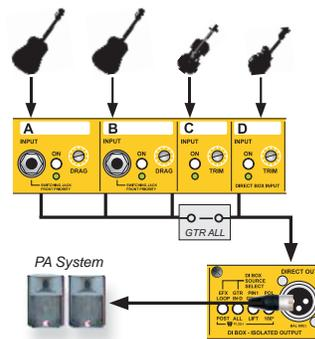

Fig.40 - Four acoustic instruments are assigned to the DIRECT OUT and sent to the PA.
**EXAMPLE: FOUR ACOUSTIC INSTRUMENTS (Fig.40)**
This example shows four acoustic instruments such as guitars, fiddle, and mandolin (Fig.40). Unlike example-1, this setup would assign all instruments to the DI by setting the GTR switch to the inward position ( ALL  ). This will allow the PA system to reinforce the acoustic instruments and the player can turn on stage amps at will via the front panel controls or JR5 remote footswitch. Effects connected to the local EFX LOOP could also be routed to the DI and turned on and off via the amplifier output controls.